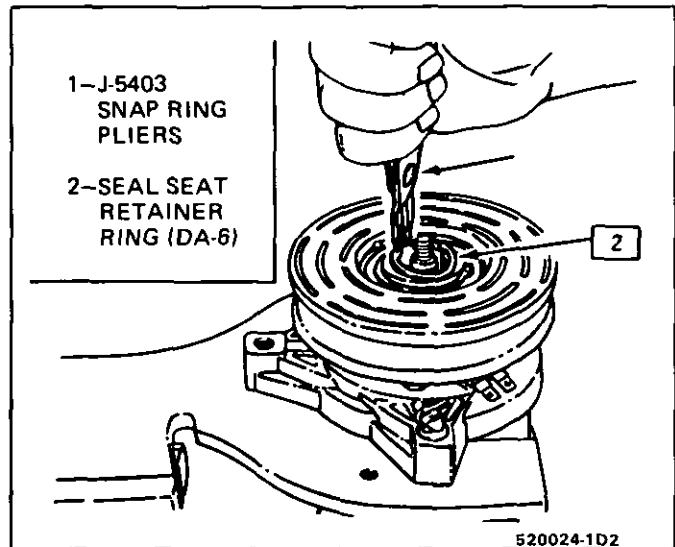

Fig. 24 Removing or Installing Shaft Seal Seat Retaining Ring
4. Remove the shaft seal retainer ring, using snap ring pliers J-5403 (Fig. 24).